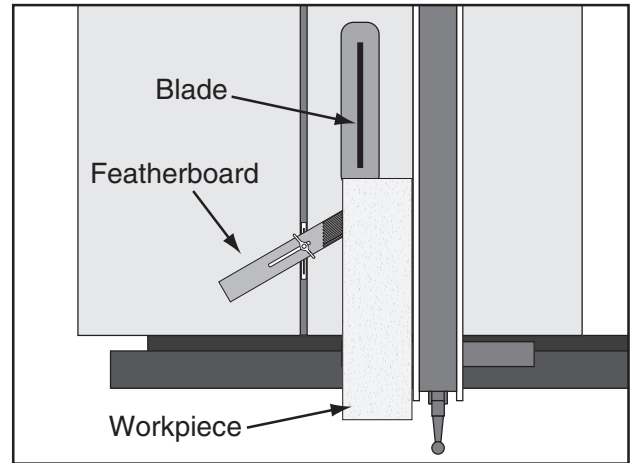

Figure 96. Featherboard installed in miter slot and supporting workpiece for ripping cut.
3. Slide the featherboard miter bar into the miter slot, making sure the fingers point toward the blade, as shown in **Figure 96**.